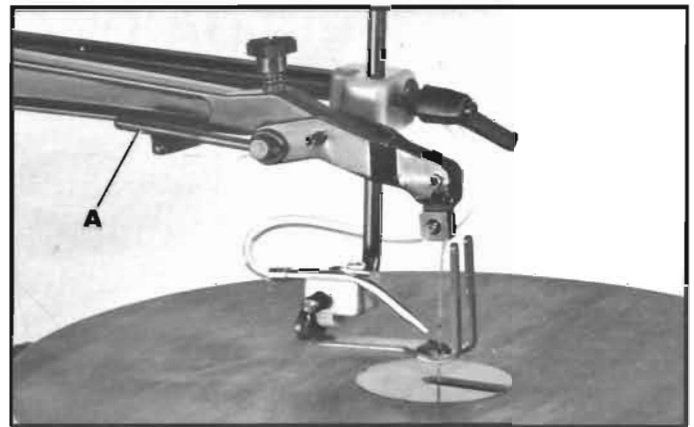
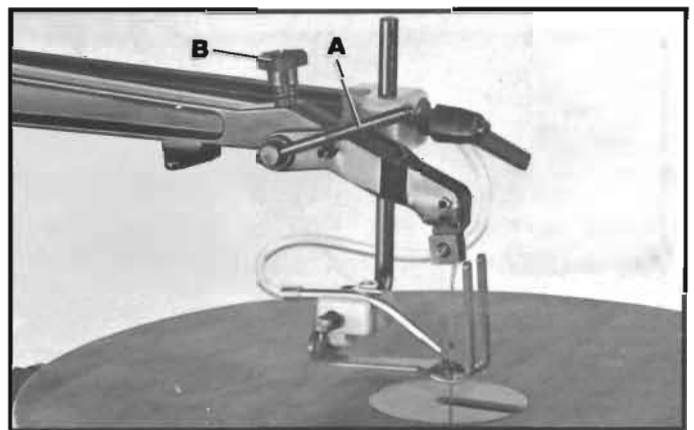

Fig. 17
Fig. 18
Tension is applied to the blade when the blade tension lever (A) is in the rear position, as shown in Fig. 17. When the lever (A) is moved forward, as shown in Fig. 18, blade tension is released.
To increase blade tension, turn knob (B) Fig. 18, clockwise and to decrease blade tension, turn knob (B) counterclockwise. When adjusting blade tension, lever (A) should be in the forward position, as shown in Fig. 18. **NOTE:** It is necessary to adjust the blade tension knob (B) only when the blade is removed from both upper and lower blade holders and a new or different type of blade is assembled to the holders. It is not necessary to adjust blade tension when the blade is removed and replaced in only the upper blade holder as in performing inside cutting operations.
Adjusting the blade for proper tension is usually accomplished by trial and error; however, a good method to use is to pluck the rear of the blade, like a guitar string after the tension lever (A) Fig. 18, is moved to the rear. A high pitched tone of the blade should be heard and this usually indicates proper tension. Finer blades require more tensioning (a higher pitched sound) while thicker blades require less tension.